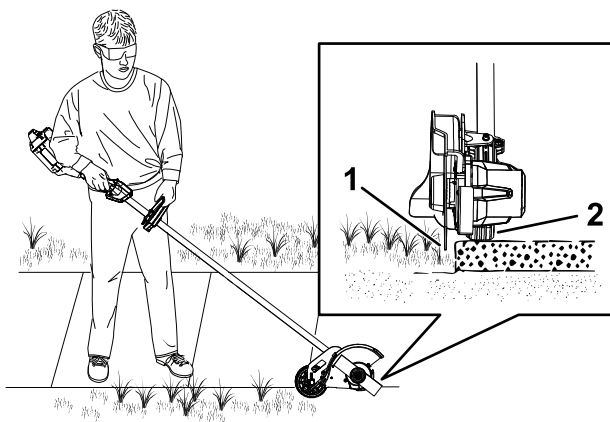

Figure 12
2. Remove the 2 screws securing the skid plate to the edger (Figure 12).